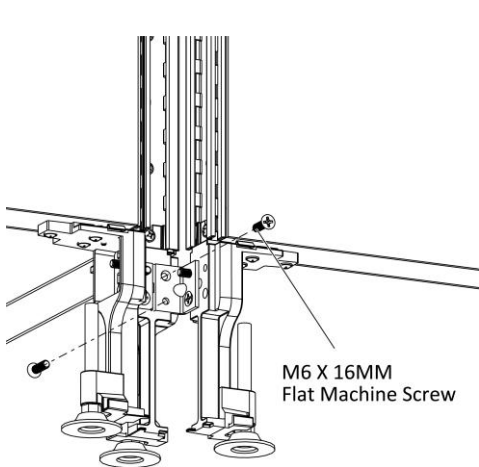

Figure 6
- Secure the base with two M6 X 16MM Flat Machine Screws, (Figure 6).